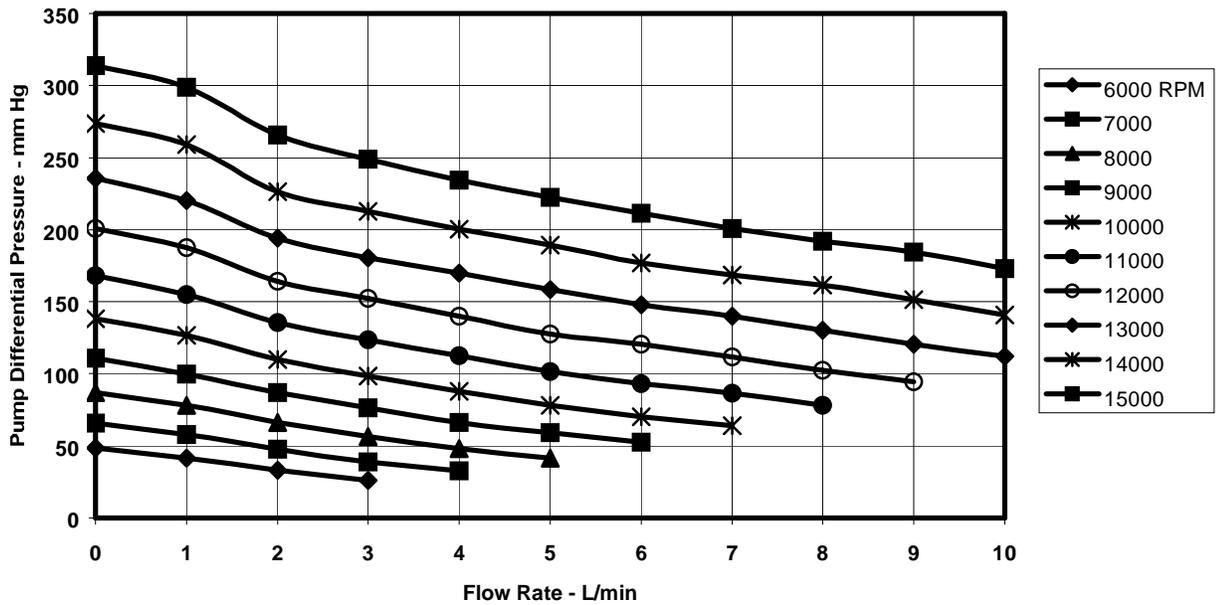

Figure 16: Typical HeartMate II Flow Characteristics
- 16 Recognizing that arterial pressure (pump outlet pressure) is closely regulated by the intrinsic cardiovascular regulatory mechanisms of the body, the principle factor influencing pump flow is the inlet pressure (left ventricular pressure). Figure 16 illustrates that running the pump at 6,000 rpm will result in a maximum flow of 4 lpm, provided left ventricular pressure equals arterial pressure. A pressure difference of 20 mmHg would be required to obtain 2.5 lpm flow at 6,000 rpm, which would result in a left ventricular pressure of $100 - 20 = 80$ mmHg at an arterial pressure of 100 mmHg. By increasing the pump speed to 10,000 rpm, a 100 mmHg pressure difference would be needed to maintain a 2.5 lpm flow rate. This relationship demonstrates that the flow generated by the pump is directly proportional to left ventricular pressure.